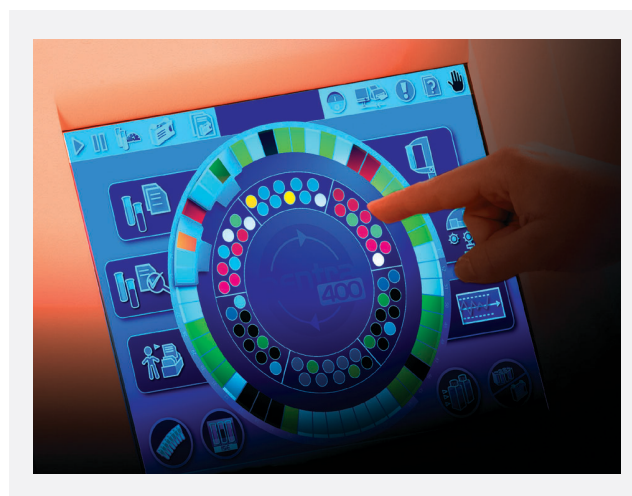

Figure 2 Icon with Finger
- The touch-sensitive screen provides one-touch access to software functions. Icon sizes have been optimized to ensure easy selection (Figure 2).